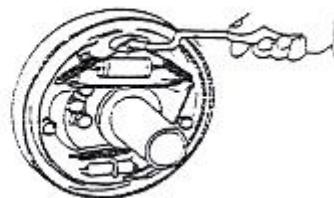

figure10
- (7) Attached the compression spring to the hand brake lever and attached ,as figure 10